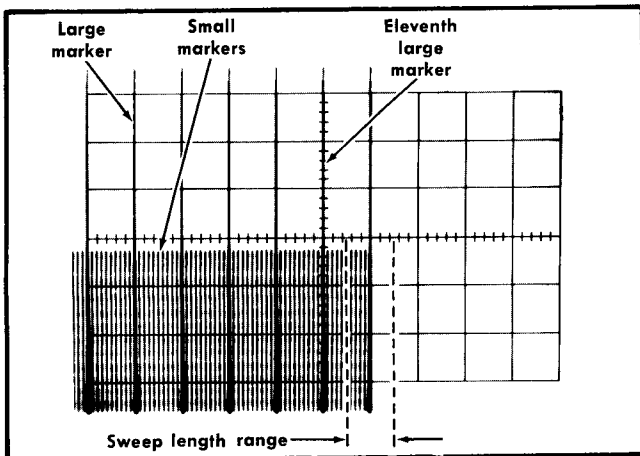

Fig. 5-24. Typical CRT display when checking A and B sweep length.
c. Move the eleventh marker to the center vertical line with the horizontal POSITION control (see Fig. 5-24). Large markers indicate divisions and small markers indicate 0.1 division.
d. CHECK—A Sweep length must be between 10.5 and 11.5 divisions as shown by 0.5 to 1.5 divisions of display to the right of the center vertical line (see Fig. 5-24).
d. Move the eleventh large marker to the center vertical line with the horizontal POSITION control (see Fig. 5-24).
e. CHECK—B Sweep length must be between 10.5 and 11.5 divisions as shown by 0.5 to 1.5 divisions of display to the right of the center vertical line (see Fig. 5-24).